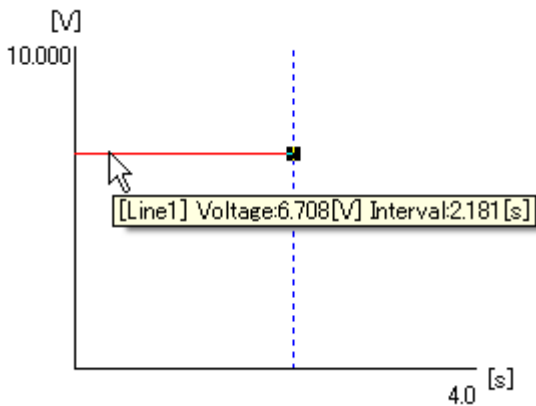
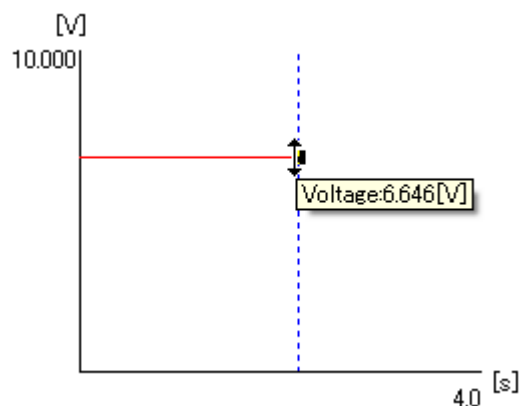
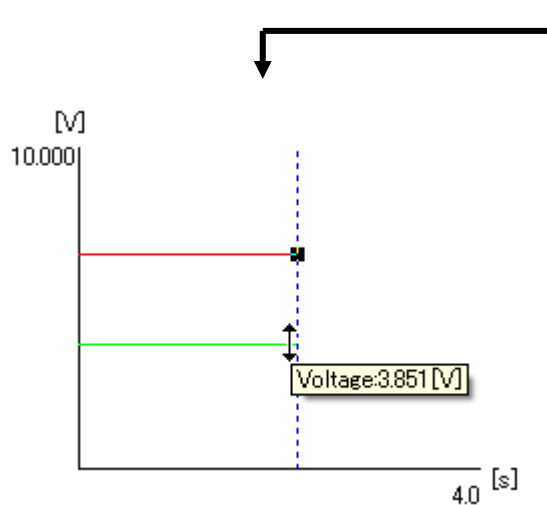

Fig. 4-6 Selecting the Line to be Changed
Fig. 4-7 Start Changing the Data
Fig. 4-8 Moving to the Desired Position
- (4) To edit data from a graph, double click on the line to be modified. This will cause the end point of the line to change to a black point (Fig 4-6). Move the mouse pointer over the black point, and, when the pointer changes to an arrow (Fig. 4-7), hold down the left mouse button to select that point and drag the mouse up or down (Fig. 4-8). Release the left button at any location to establish that data point.